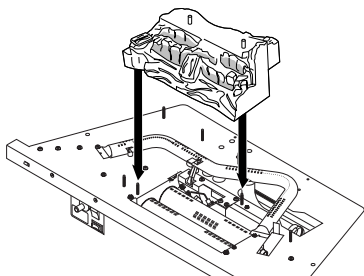

Figure 31 - Installing Log #1 (Ember Bed)
1. Place log #1 (ember bed) onto base over log alignment screws to the left of front burner and behind middle burner. Log #1 will sit on top of front and middle burners (see Figure 31).